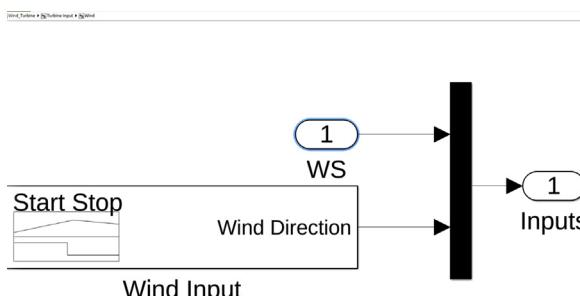
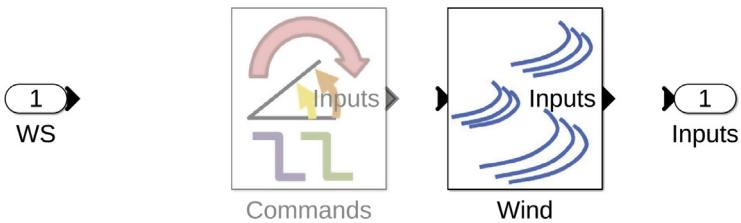

Figure 10.51 WS import to Mux block.
Figure 10.52 WS import in Wind_Turbine/Turbine_Input.
4. For the first input of the **Mux** block in Wind_Turbine/Turbine Input/Wind, add an **import**, rename it as WS, and connect it to the first input of the **Mux** block as shown in Fig. 10.51. Copy the WS **import** and paste it in Wind_Turbine/Turbine Input as shown in Fig. 10.52. Repeat the same for Wind_Turbine top level. Connect the WS **import** to the Turbine Input subsystem as shown in Fig. 10.53.